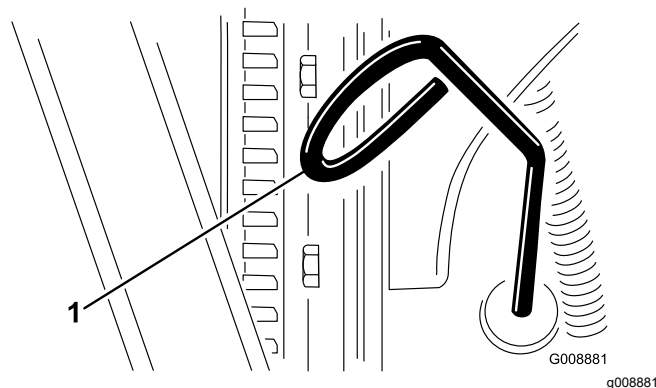

Figure 66
3. Remove the dipstick (Figure 66) and wipe it with a clean rag.